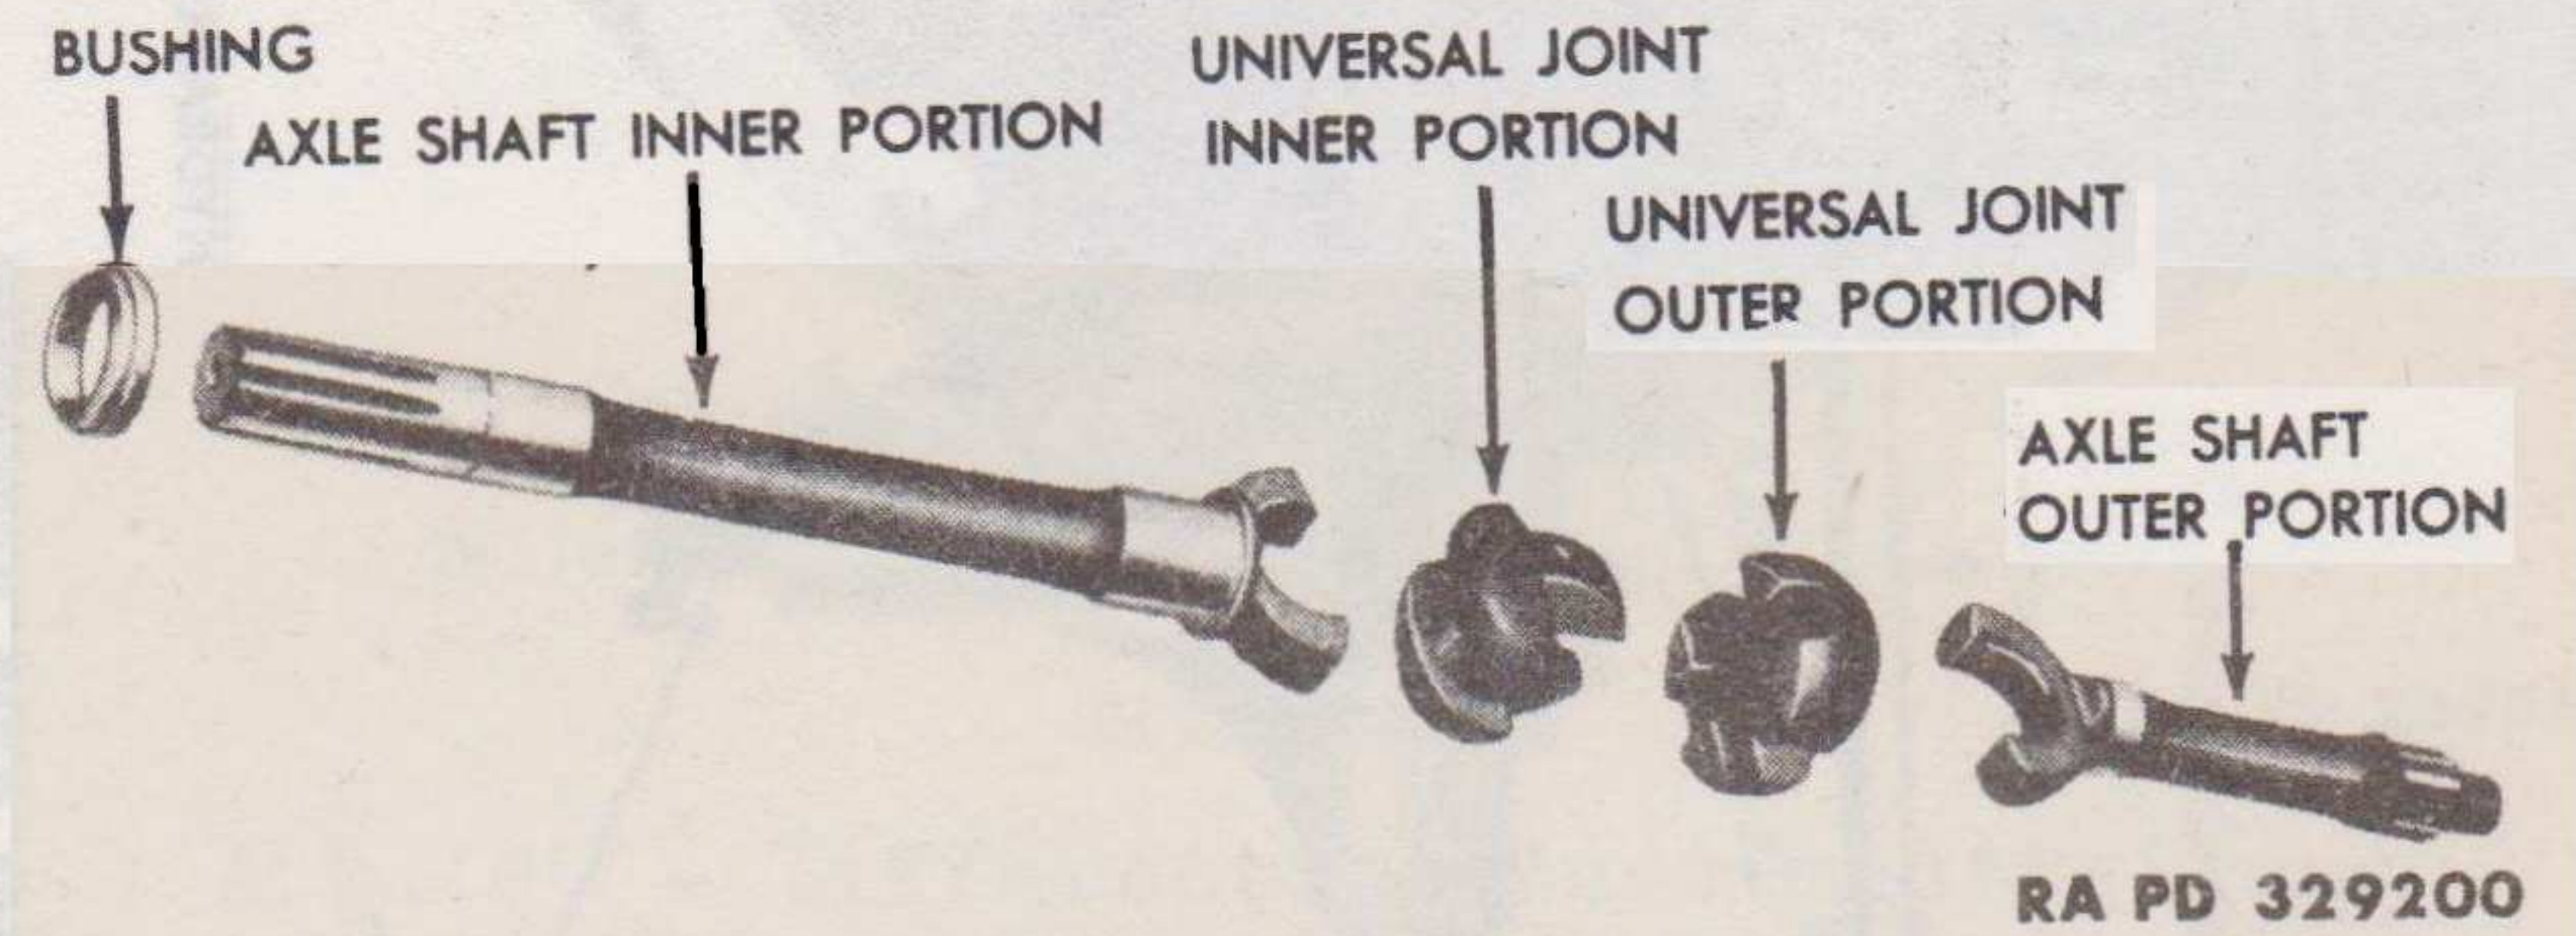

Figure 45 — Front Axle Shaft — Exploded View (Tracta Type)
(3) **TRACTA UNIVERSAL JOINT** (fig. 45). Remove the outer portion of the axle shaft and the outer portion of the universal joint from the axle housing. Pull the inner portion of the axle shaft and the inner portion of the universal joint out of the housing.